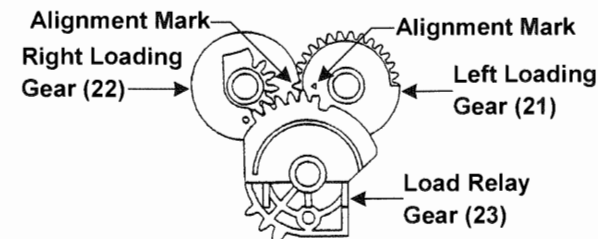

Figure 4
Align the triangle mark on the left loading gear (21) with the alignment mark on the right loading gear (22). Align the first tooth of the right loading gear with the first tooth of the load relay gear (23). See figure 4.